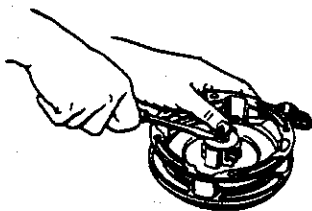

FIG. 7
1. Loss of brake spring (8) can be avoided by holding washer (7) in position with thumb while removing "Truarc" retainer ring (6) with a screwdriver, as shown in Fig. 7.